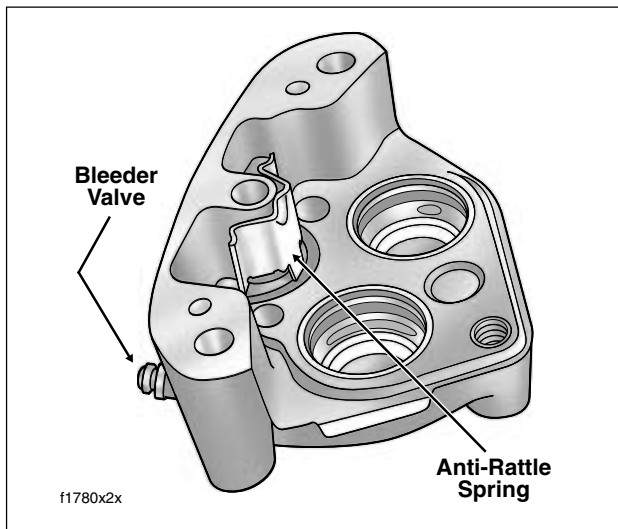

Figure 2-60. Install Anti-Rattle Spring
- b. Place outside caliper housing on workbench with decal side down. Place anti-rattle spring in channel around boss. Spring is not directional. See Figure 2-60.
If pad pins do not fit, verify the following: (1) Proper pad set is being used, not two identical pads. (2) Anti-rattle spring is installed as shown in Figure 2-60. (3) Pads are pushed tight against anti-rattle spring.